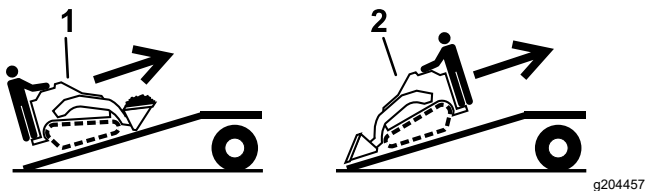

Figure 29
5. Load the machine onto the trailer with the heavy end up the ramp, carrying loads low (Figure 29).